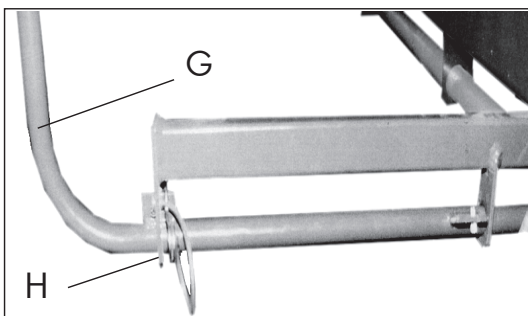

Fig. 3-6
1. Fold guard yoke (G) upwards, push it to the center of the vehicle and secure it with fixation dowel (H) (fig. 3-6).